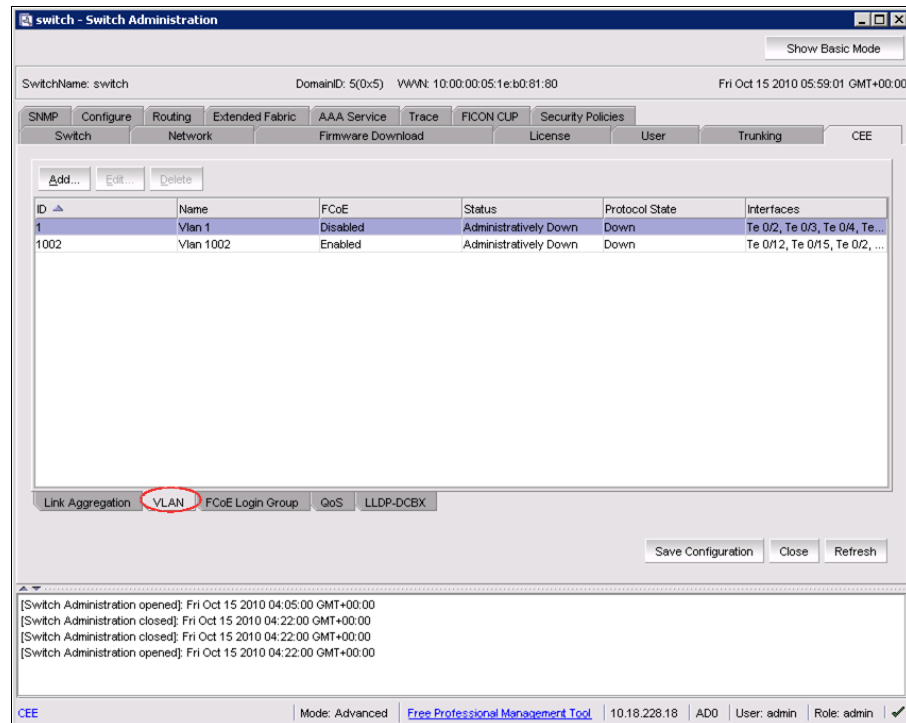

Figure 5-26 CEE tab → VLAN tab
1. On the Switch Administration panel, make the following tab selections: **CEE** → **VLAN** (Figure 5-26).